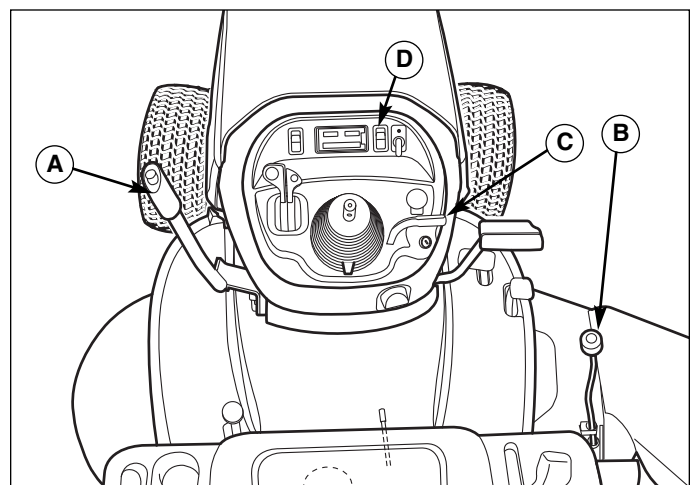

Figure 5. Raising & Lowering Mower
Electric Height of Cut Models: The cutting height adjustment switch (D, Figure 5) controls the mower cutting height. This same switch also controls the spout rotator motor when a snowthrower is installed. The arrows on the switch correspond to the direction of adjustment (UP arrow raises cutting height, RIGHT arrow rotates the spout right, etc). When the adjustment indicator has reached the end of its travel, release the switch; holding the switch down will damage the motor
Manual Lift Models: The cutting height adjustment knob (B, Figure 5) controls the mower cutting height. Turn the knob clockwise to raise the deck and counterclockwise to lower it.
2. Place mower height adjuster (B, Figures 5) in the lowest cutting position. Place the mower lift lever in the lowest position, also. Slide mower deck under right side of tractor so that mower hitch is aligned with the front tractor hitch.